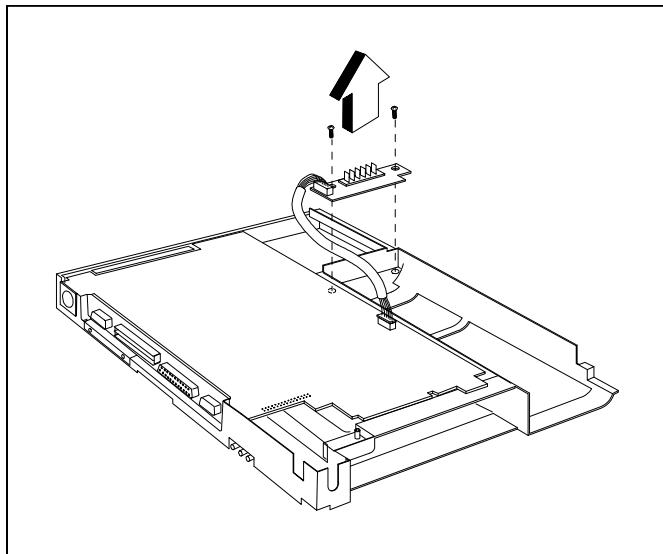

Figure 6-19 Removing/Replacing the Battery Board
3. Remove the two screws holding the Battery Board and remove the Battery Board Assembly (refer to Figure 6-19). .